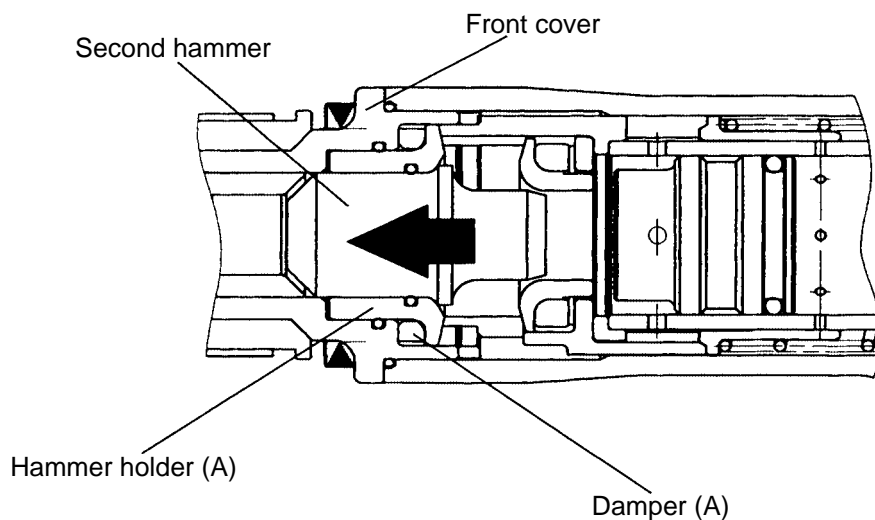

Fig. 8
At the instance of releasing the bull point from the concrete by moving the main body up, the second hammer contacts hammer holder (A) as shown in Fig. 8 then the cushion (damper (A)) provided between hammer holder (A) and the front cover absorbs the striking force of the second hammer. Thus the durability of the Model H 45FRV is greatly increased because the second hammer does not strike the tool retainer directly.